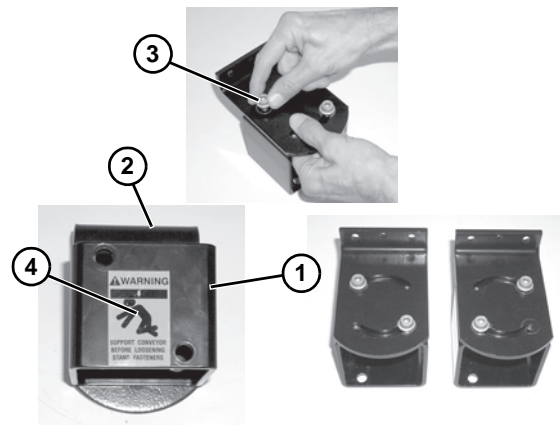

Figure 7
Leg support bracket (Figure 7, item 1) must be installed on stand/conveyor mounting bracket(s) (Figure 7, item 2) with warning label (Figure 7, item 4) facing out. When installed, round end of stand/conveyor mounting bracket will be down and warning label will be upright, as shown.
9. Attach leg support bracket (Figure 7, item 1) to stand/conveyor mounting bracket (Figure 7, item 2) with two flange socket head screws (Figure 7, item 3). Do not tighten screws.
10. Repeat step 9 for opposite leg support bracket (Figure 7, item 1). To ensure proper attachment of stand/conveyor mounting bracket to conveyor, install flange socket head screws (Figure 7, item 3) in opposite holes on opposite leg support bracket, as shown.